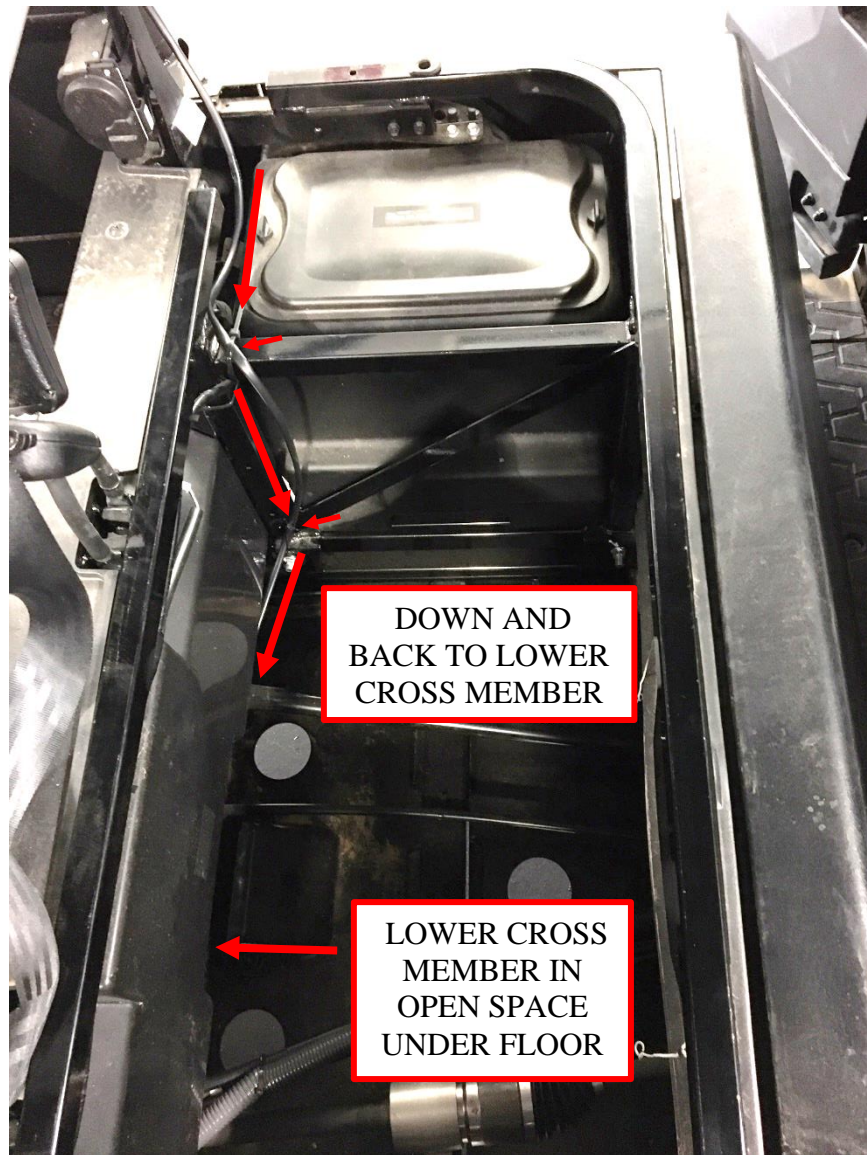

Figure 13: Route the harness down the seat frame.
10. Route the harness from the corner opening down the seat frame as shown in Figure 13.